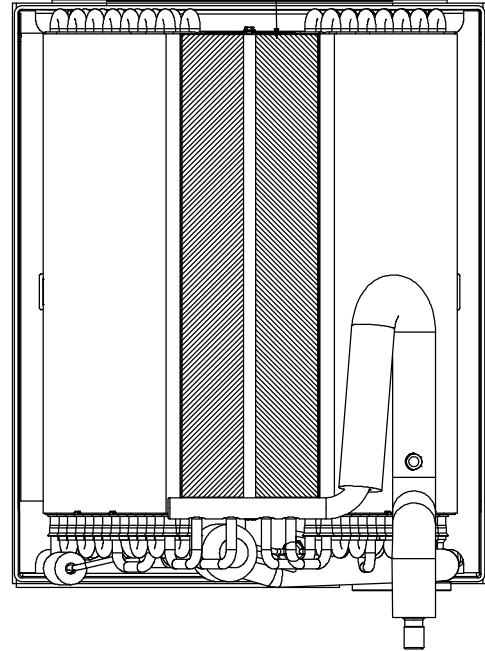

Figure 9 - Right Top Plate Insulation
3. Apply the second piece of insulation tape in a similar manner to the right edge of the top plate. See Figure 9. If you still see exposed width of top plate is wider than insulation tape, repeat to apply the insulation tape adjacently to the first or/and second pieces without gap till the exposed top plate width become less than an insulation tape.